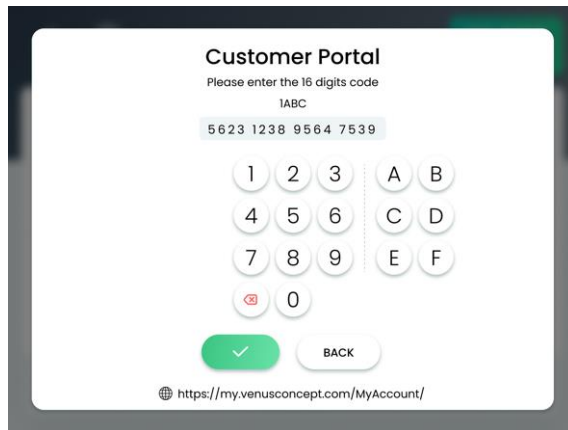

Figure 6-14. Customer Portal Screen
2. From the Settings screen, press the **Activate** icon, as shown in Table 6-1; the Customer Portal screen appears, as shown in Figure 6-14.